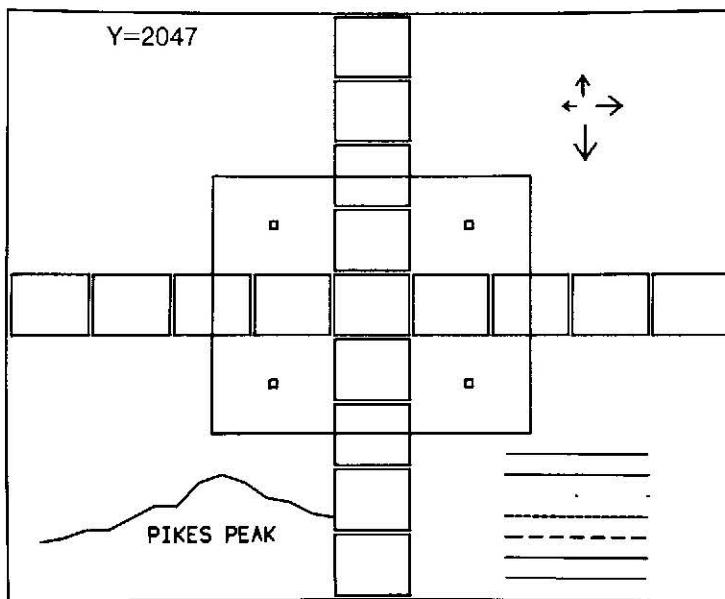

Figure 5-4. Primary Test Pattern Adjustment
- c. Adjust Trace Align (A1R160) to align trace horizontally. Check for a pattern on screen as shown in figure 5-4.